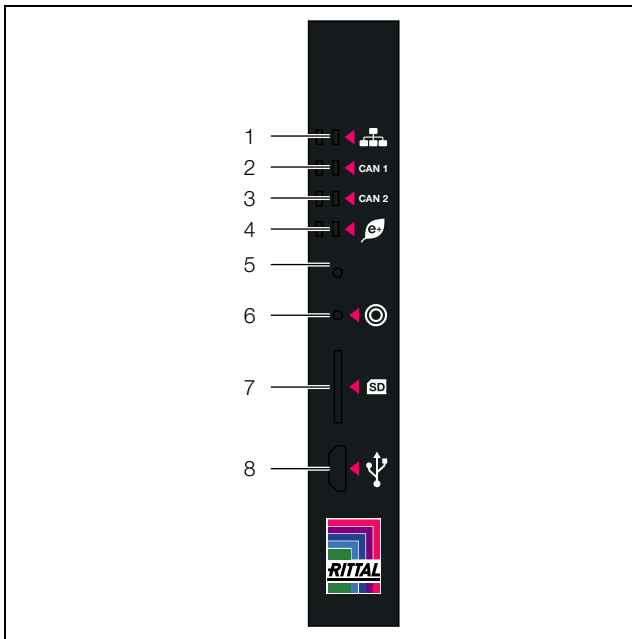

Fig. 8: Front of the IoT interface
1. By briefly pressing the appropriate push-button (fig. 8, item 6) on the IoT interface (circle symbol). This confirms all alarm messages concurrently.